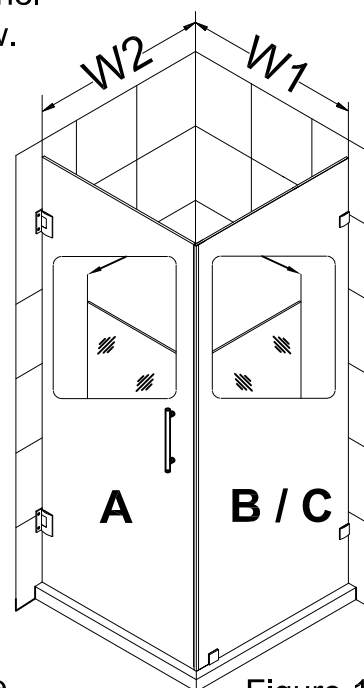

Figure 1
2. Remove pre-installed screws from pre-assembled Hinges (06).
Attach the Hinges (06) to Glass door (01). The smooth flat surface of Hinge (06) should be installed on outside of glass door. See Figure 1 for details.